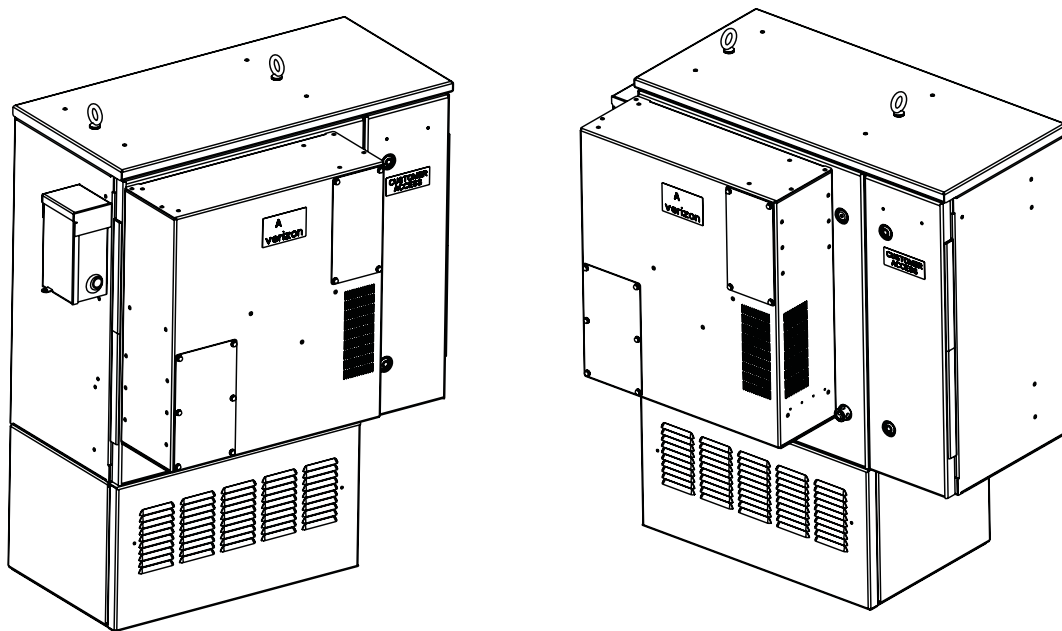

Fig. 1 : MESA® SOLE
- 1.1 **Purpose** - This practice provides a description and installation instructions for the MESA® SOLE (Modular Electronic Sealed Architecture) cabinet. See Fig. 1.